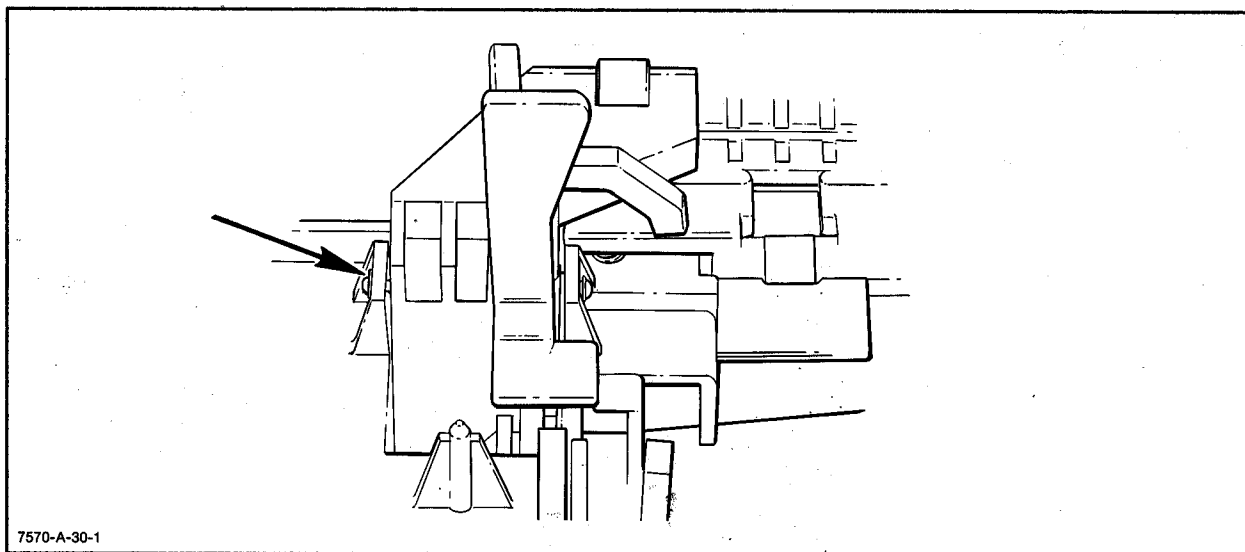

Figure 6-27. Pinch Wheel Arm
- d. Remove the "E" clip from the end of the pinch wheel arm shaft. See Figure 6-27.
- i. Remove the "E" clip from the end of the pinch wheel arm shaft. See Figure 6-27.